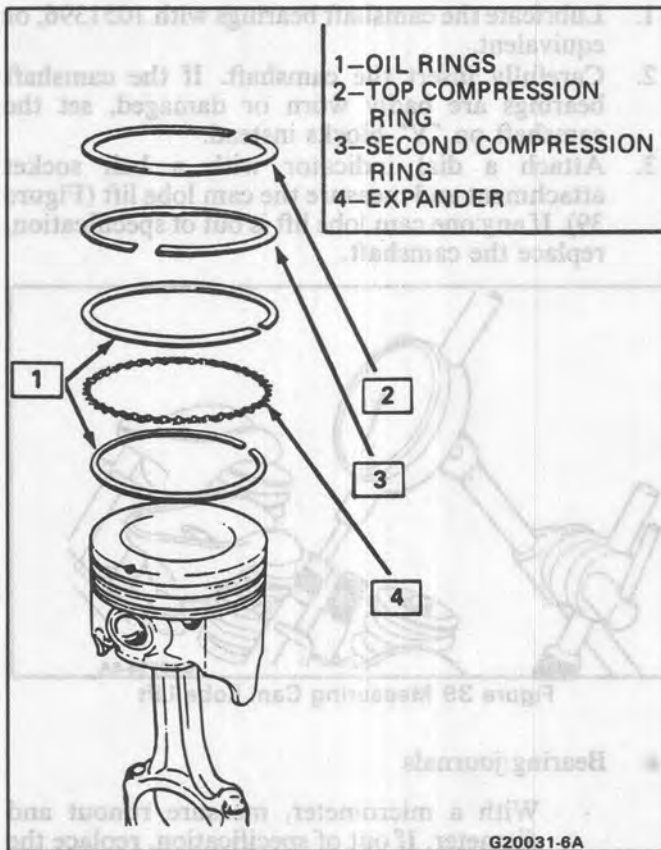

Figure 35 Piston and Rod Assembly (Typical)
5. Align piston and connecting rod assembly according to the mark on the piston (Figure 35) and insert in the cylinder.